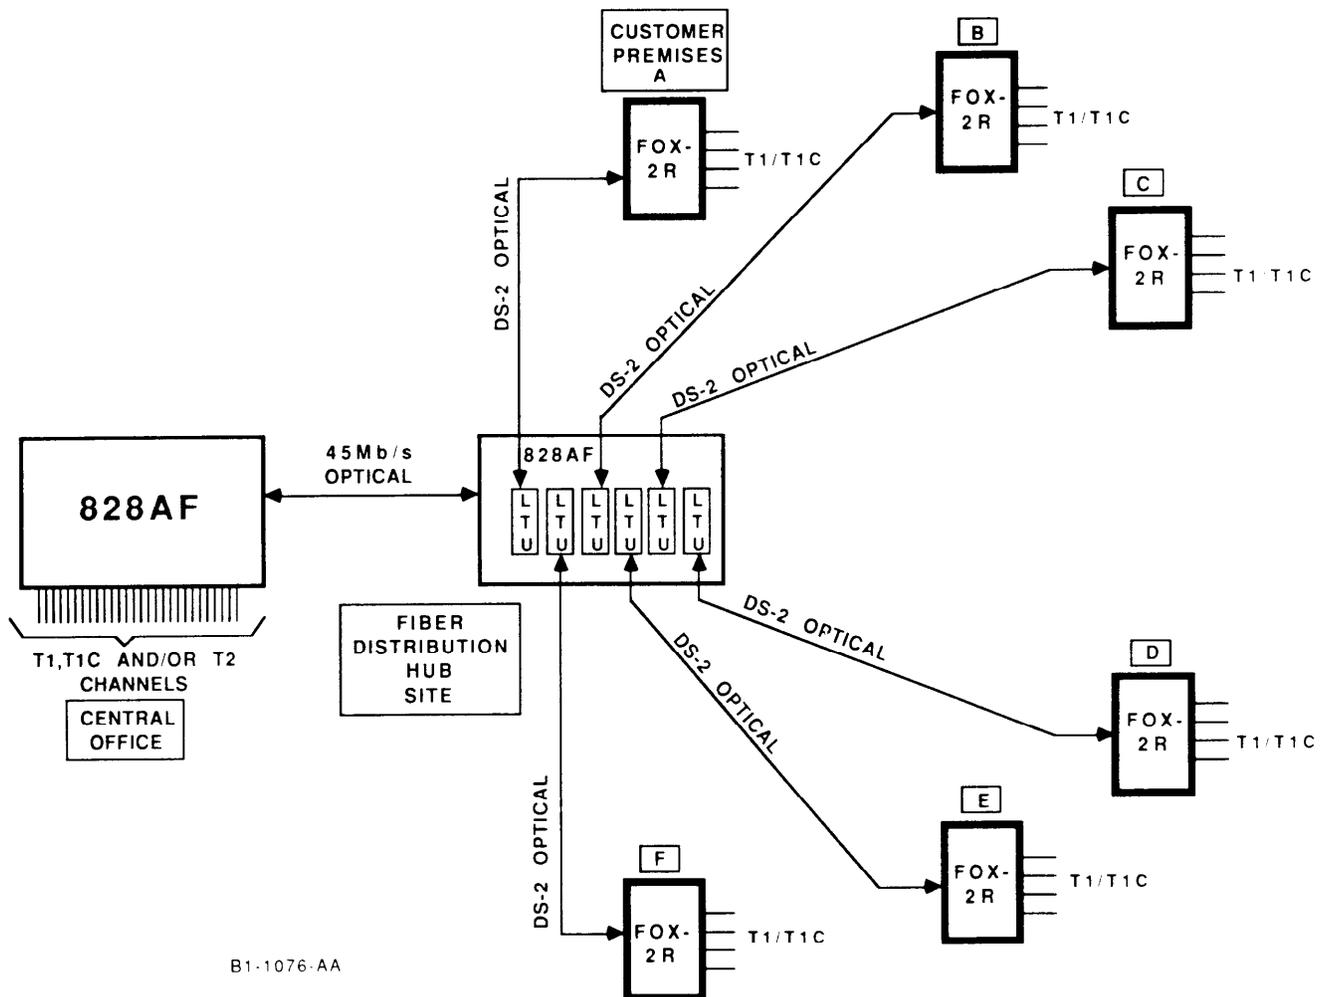

Figure 1-8. 828AF/FOX-2/FOX-2R DS-2 Fiber-Optic Hubbing Application
5.04 Figure 1-8 illustrates the 828AF in a DS-2 fiber-optic hubbing application. The optical DS-3 transmission trunk interconnecting a central office and hub distribution center can be subdivided into six DS-2 optical